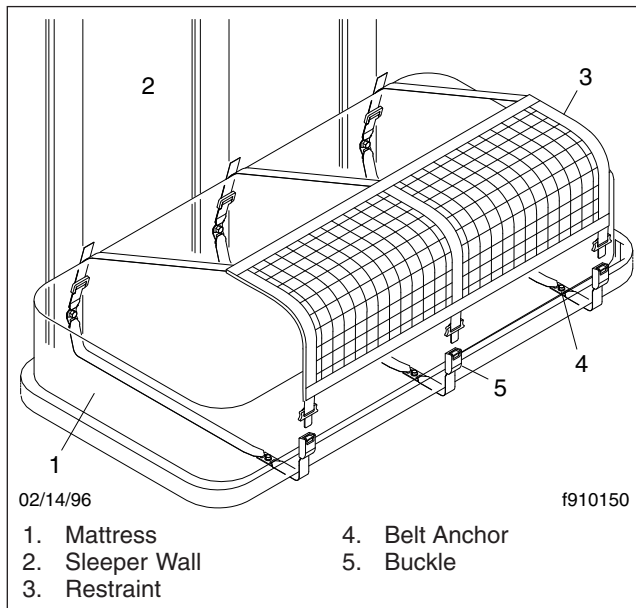

Fig. 5.14, Bunk Restraint
1. Starting at the foot of the bunk, pull up the link end of the belt far enough to engage the buckle. See **Fig. 5.14**.